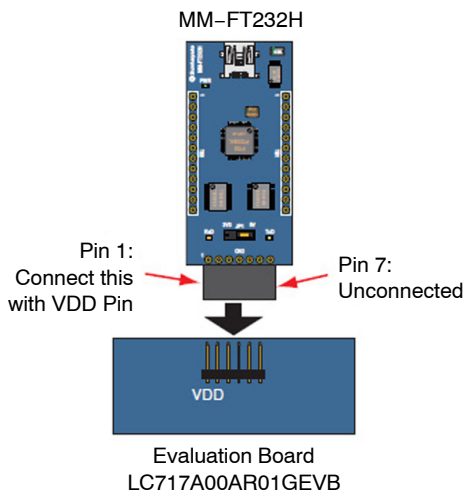

Figure 2. MM-FT232H Connection
1. When receiving power from PC, set Power switching jumper to "PC" side and connect "MM-FT232H" to the connector for Multifunctional USB conversion module (See Figure 2). If receiving power from optional AC adapter, set the jumper to "AC ADAPTER" side and connect AD adapter to DC jack.
1. Connect “MM-FT232H” (See Figure 2).